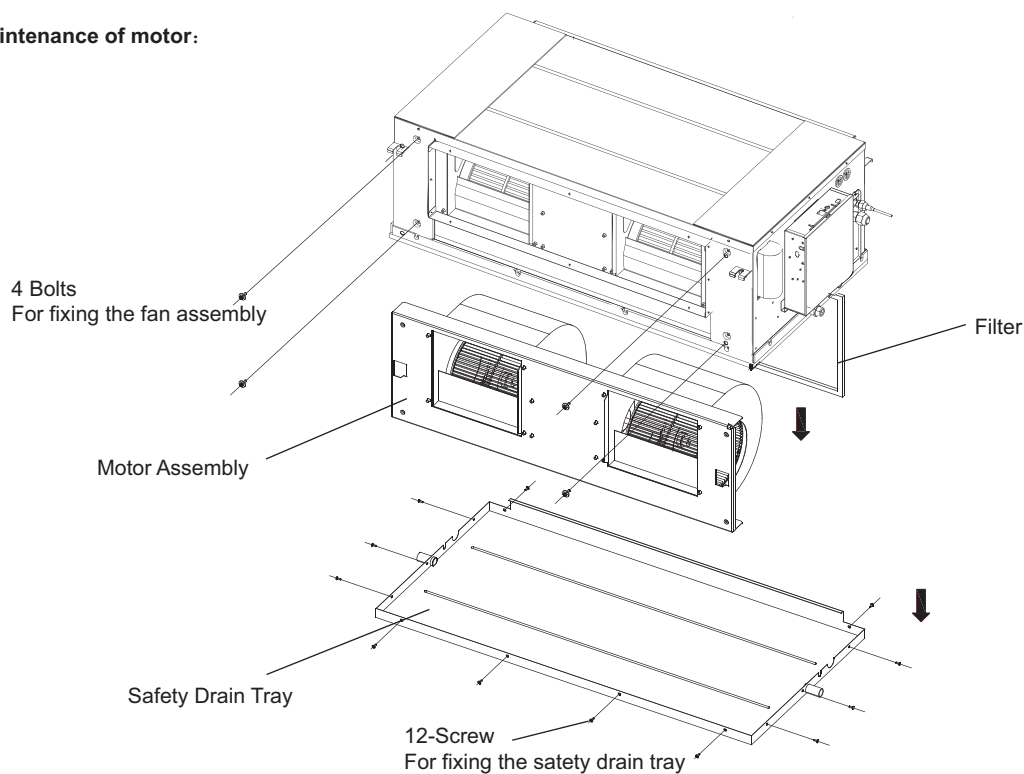

Fig.4-14
1. Refer to Fig.4-14, remove all 11 screw from safety drain tray, and take off the safety drain tray.